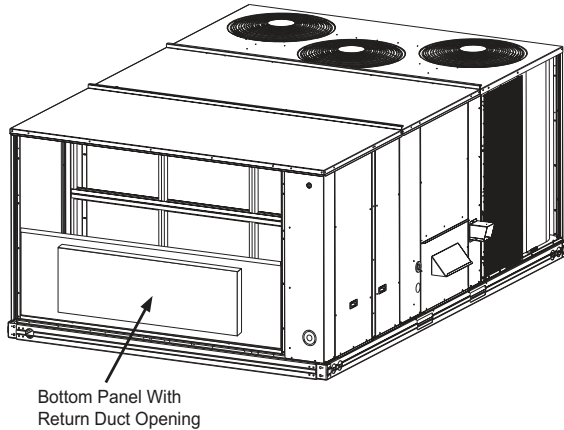

Fig. 15 — Install Bottom Panel With Horizontal Return
The unit has a horizontal duct opening next to the horizontal supply duct opening. However, in this application, with an economizer, the horizontal duct will actually come into the unit underneath the outdoor air hood. (See Fig. 15.)
9. Install the bottom panel (provided) with the horizontal return duct opening on the unit (see Fig. 15 and 17). Screw the panel into place.